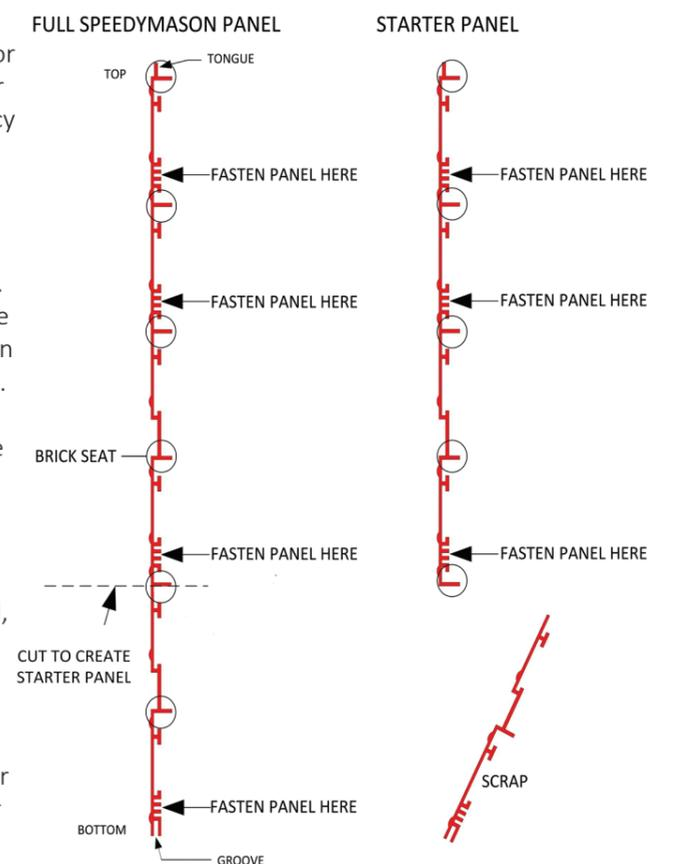

FIGURE 2
- D. Create a starter panel. **(See figure 2)**
- H. Fasten on the nail strips. **(See figure 2)**
- A. Create a starter panel. **(See Figure 2)**
- E. Fasten on the nail strips. **(See figure 2)**